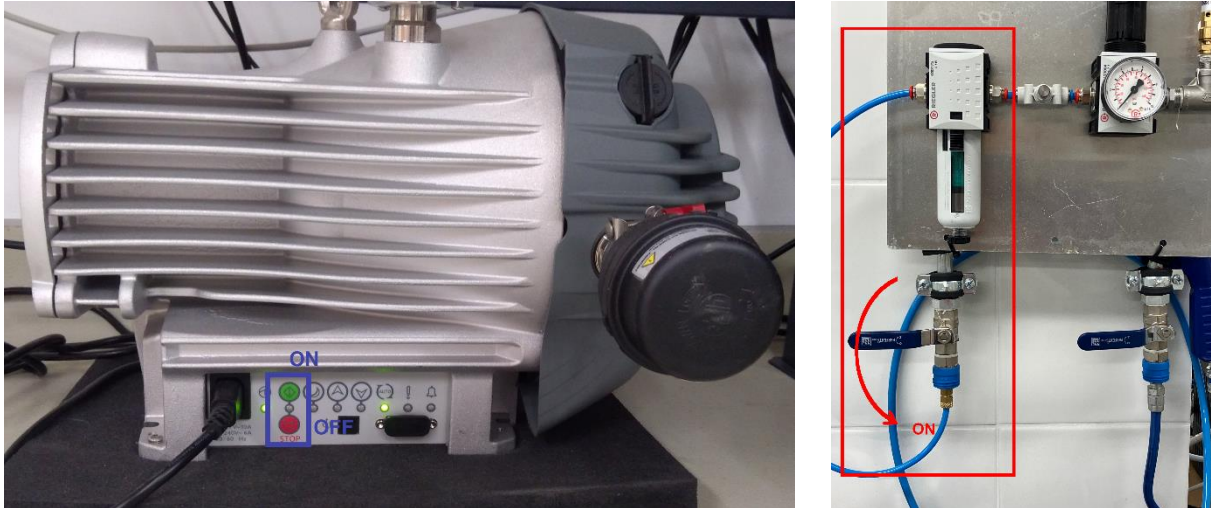

Fig. 2. Vacuum pump and valve of compressed air
A compressed air source and a vacuum pump are connected to the spectrometer, which contains the standard radiation source, beamsplitter, interferometer, and mirrors system directing the beam to the measuring chamber or microscope (Fig. 2). The microscope is coupled with the spectrometer.
4. Turn off the vacuum pump (Fig. 2)
5. Stop the compressed air flow (Fig. 2)